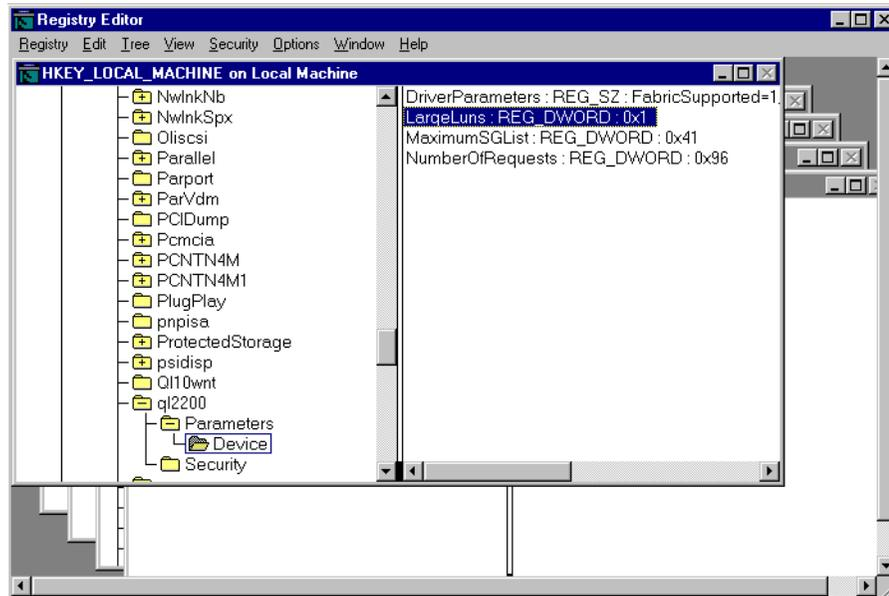

Figure 29. Editing the registry entry for LargeLUNs
10. To edit, highlight it and go to **Edit**, then **DWORD** (Figure 29).